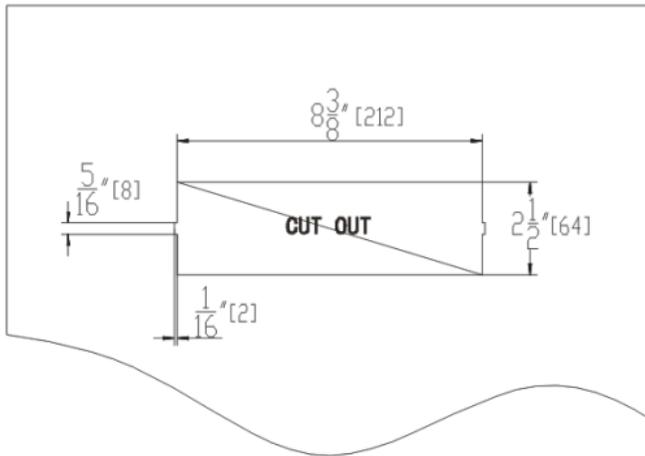

Fig. 1 - Cut-Out Dimensions
- 5.1 To mount the Source Capture[®] Vent, cut an opening in table-top or preferred mounting surface. The dimensions of the cut-out are 8-3/8" x 2-1/2", as shown in Fig. 1.